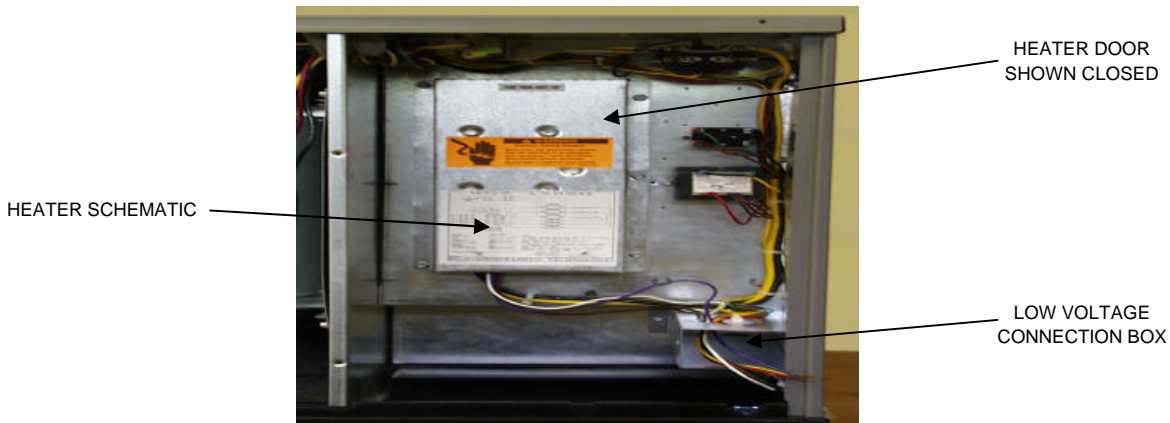

Fig. 2
4. Connect low voltage wires as shown in heater schematic diagram (See Pg. 4). These connections must be made in the 24V barrier section inside unit panel (See Fig. 2). For 50CE, CR, DT, DU, XL, XT, 604C, 607B/D, 707B/D install the adaptor harness hit (provided with heater) to the low voltage wires of heater. Connect the harness plug to the mating 5 pin connector on the unit control board found at the bottom of the control box.
6. Schematic on sticker to be placed inside unit panel for non-fused units. (See Fig. 2).
7. Wire connectors (3).
8. Wire ties (5) 6" long (See Fig. 2)
9. Screws #10A (5)
10. Wire tie clamps (2). Fused models only.